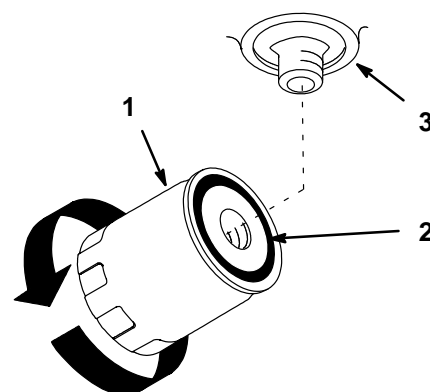

**Figure 35**
3. Place drain pan under filter, remove the old filter and wipe the filter adapter gasket surface clean (Fig. 35).